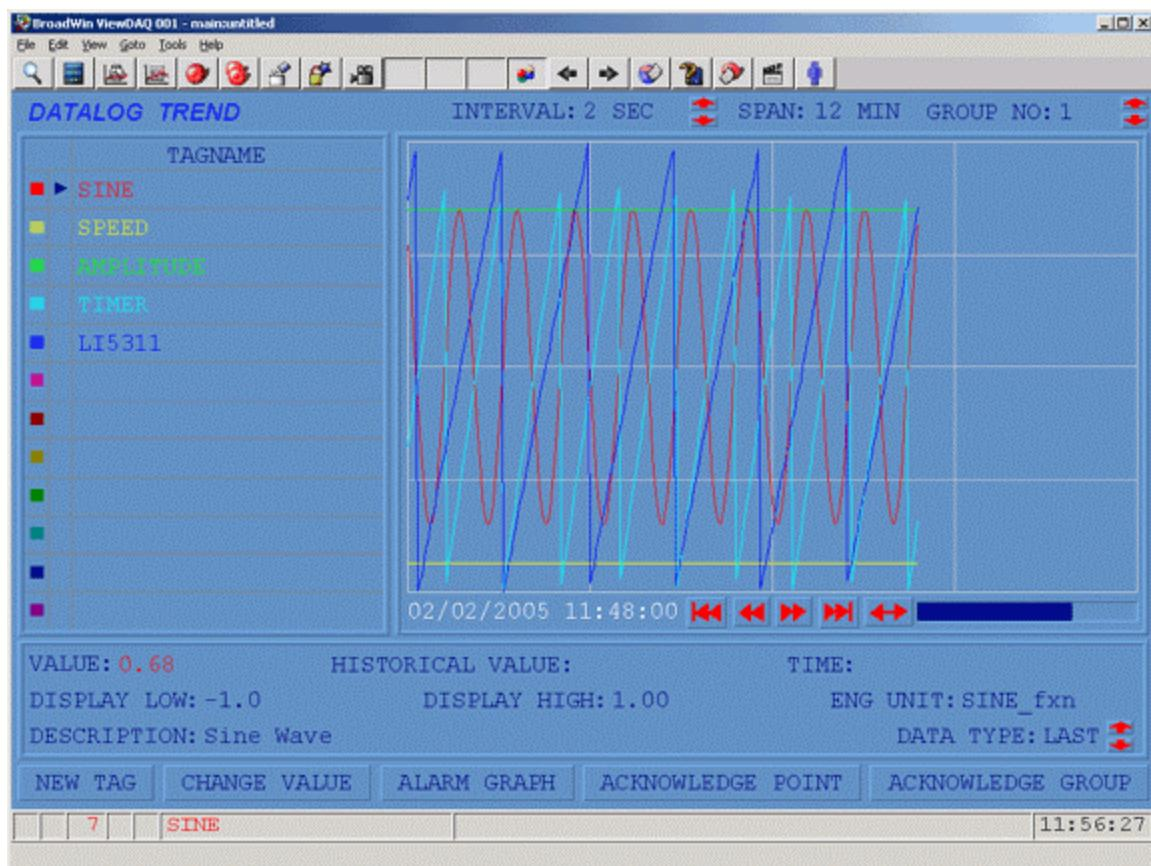

Figure 6.41 DataLog TREND
3. Select **Datalog Trend**. Trends are plotted versus Time (the X-axis is Time), similar to a strip-chart recorder. (Figure 6.41)